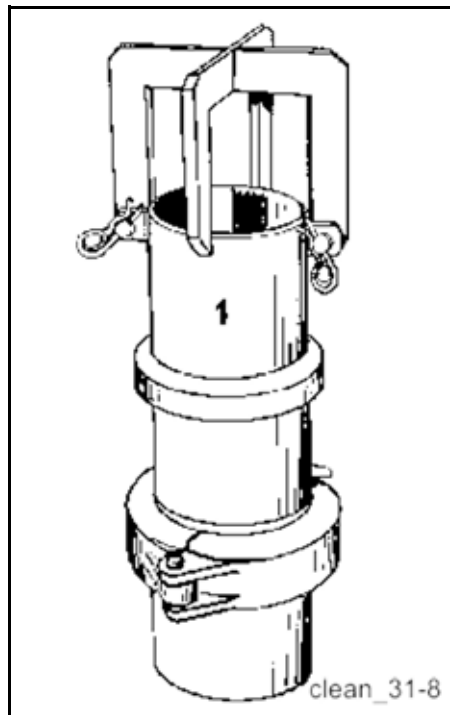

Fig. 249 Trap basket
5. A trap basket must be connected to the concrete outlet (**Fig. 249**).